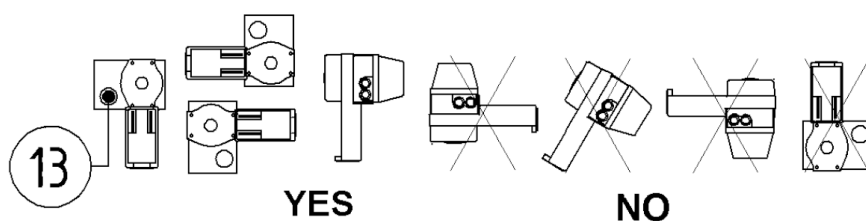
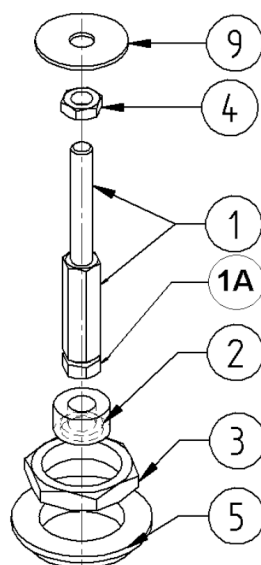
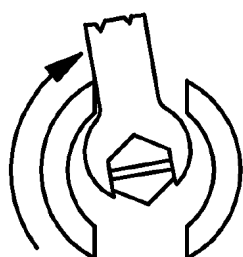
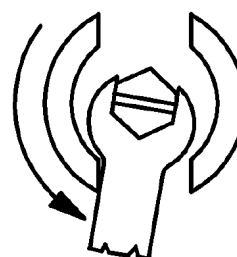

Fig. 1
Fig. 2
Fig. 3
Fig. 4
- Make sure the plug reaches lower seat by acting on the joint (1) end;
- using the actuator manual control knob (13) (Fig. 1) bring the rack at the level of the lower reference (7) located on the bracket;
- place the actuator on the valve interposing the ring nut (5) and the locking nut (3) between the valve stem and the bracket;
- fit the indicator disk (9) (Fig. 2) into the M8 threaded part of joint (1);
- insert the joint assembled on the valve into the M8 hole located on rack (6) and rotate the actuator until the bracket reaches the valve neck; in case this does not occur, screw the joint further to do so;
- tighten the ring nut (5) with the locking nut (3);
- make sure the indicator disk (9) previously mounted under the rack corresponds to the lower reference (7) located on the bracket.
- tighten locknut (4) (13 mm spanner) on the indicator disk (9), holding the hexagonal part of joint (1);
- place the first movable indicator (8) near the indicator disk (9).
- position the actuator on the valve interposing ring nut (5) and locking nut (3) between the valve stem and the bracket;
- insert the joint assembled on the valve into the M8 hole located on the rack (6) and rotate the actuator until the bracket reaches the valve neck;
- remove the actuator cover (13) (Fig. 1); turn the knob pivot **counter-clockwise** about half-turn using the 10 mm spanner and lock it in such position by inserting the spanner rod into the apposite notch located on the actuator cover (Fig. 4);
- during these operations pay particular attention to the spanner in the manual control: it must remain in the apposite notch (Fig. 4);
- turn further until it is evident that, by removing the spanner from the notch, the manual control pivot is steady. Then tighten ring nut (5) using locking nut (3);
- tighten locknut (4) (13 mm spanner) on the indicator disk (9) holding the hexagonal part of joint (1). Remove the spanner previously inserted into the manual control pivot;
- place the first movable indicator (8) at the level of the indicator disk (9).
- Lift the valve stem until the plug reaches the upper seat by acting on the lower end of joint (1);
- place the actuator on the valve stem interposing ring nut (5) and locking nut (3) between the valve stem and the bracket;
- insert the indicator disk (9) (Fig. 2) into the threaded part M8 of joint (1);
- remove the actuator cover (13) (Fig. 1), rotate **clockwise** the manual control pivot about half-turn (10 mm spanner), lock it in such position by inserting the spanner rod into the apposite notch on the cover (Fig. 3);
- insert the joint assembled on the valve into the M8 threaded hole on the rack (6) and then rotate the actuator until the bracket reaches the valve neck: the actuator can be oriented in the required position. Turn counter-clockwise (12 mm spanner) the joint hexagonal part, taking care after each turn, that by removing the spanner from the notch, the manual control pivot remains steady;
- tighten ring nut (5) using locking nut (3);
- tighten locknut (4) (13 mm spanner) on the indicator disk (9) holding the hexagonal part of joint (1);